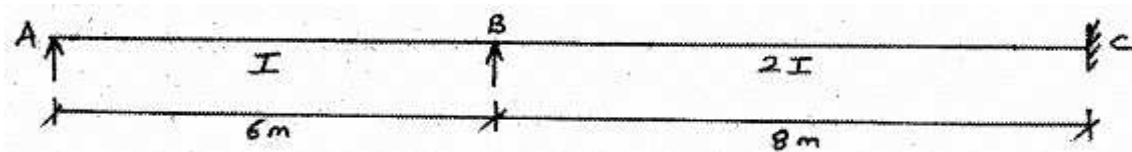

Figure 2:
4. Analyse the continuous beam shown in Figure 2 by Clapeyron's theorem of three moments if support B sinks by 10mm. Also sketch the BMD and SFD. Take  $E = 15 \text{ kN/mm}^2$  and  $I = 4 \times 10^8 \text{ mm}^4$ . [16]